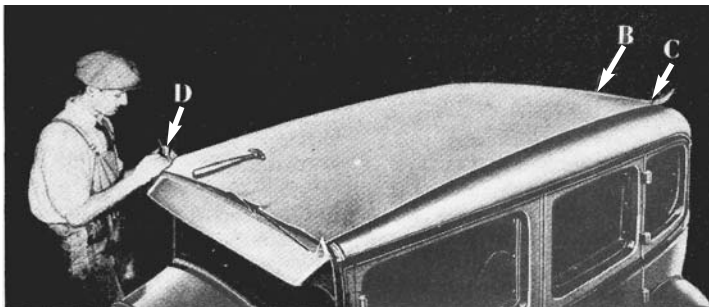

Fig 3 - Trimmer in the act of diagonally stretching and stay tacking right front corner of roof covering.
After the roof has been thus prepared, cut a new piece of roof material of the proper width and about 3 inches longer than the one removed. Then carefully lay it in place over the roof, allowing 1-1/2 inches of surplus material at both ends. Stay tack the new roof covering at the center of the front roof rail (see A in Fig. 3) and at the upper back panel (see B in Fig. 3) with six or seven tacks about 1/2 inch apart, using 2-1/2 oz. trimmer's tacks. Next stretch and stay tack one of the rear corners (see C in Fig.
3) and its diagonal opposite front corner (see D in Fig. 3). In a similar manner, stretch and tack the other two corners. Now finish tacking the roof covering completely across at the rear.